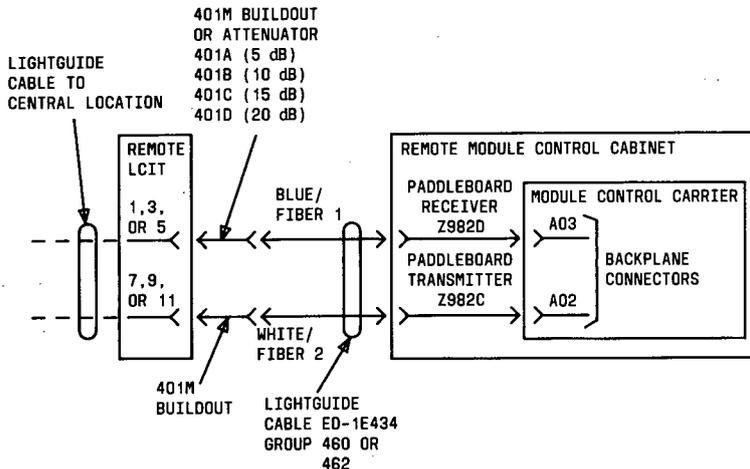

Figure 56. Remote TMS Fiber-Link Connections for Unduplicated Module Control (Phases 1 and 2)
Install all the TMS fiber link(s) for the remote location from the TMS carrier(s) to the remote LCIT as shown in Figures 56 and 57 for an unduplicated and duplicated system.
5. Connect the fiber-optic cables to the appropriate attenuator as shown in Figures 56 and 57.